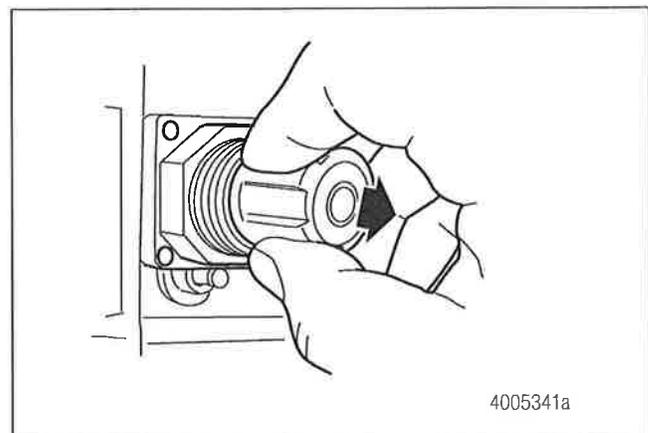

Figure 3.16
- If the air pressure is incorrect, adjust the pressure regulator. First pull out the control knob, then turn the control knob in approximate 1/8-turn (45 degrees) increments. Figure 3.16. Turn the knob CLOCKWISE to increase pressure or COUNTERCLOCKWISE to decrease pressure.